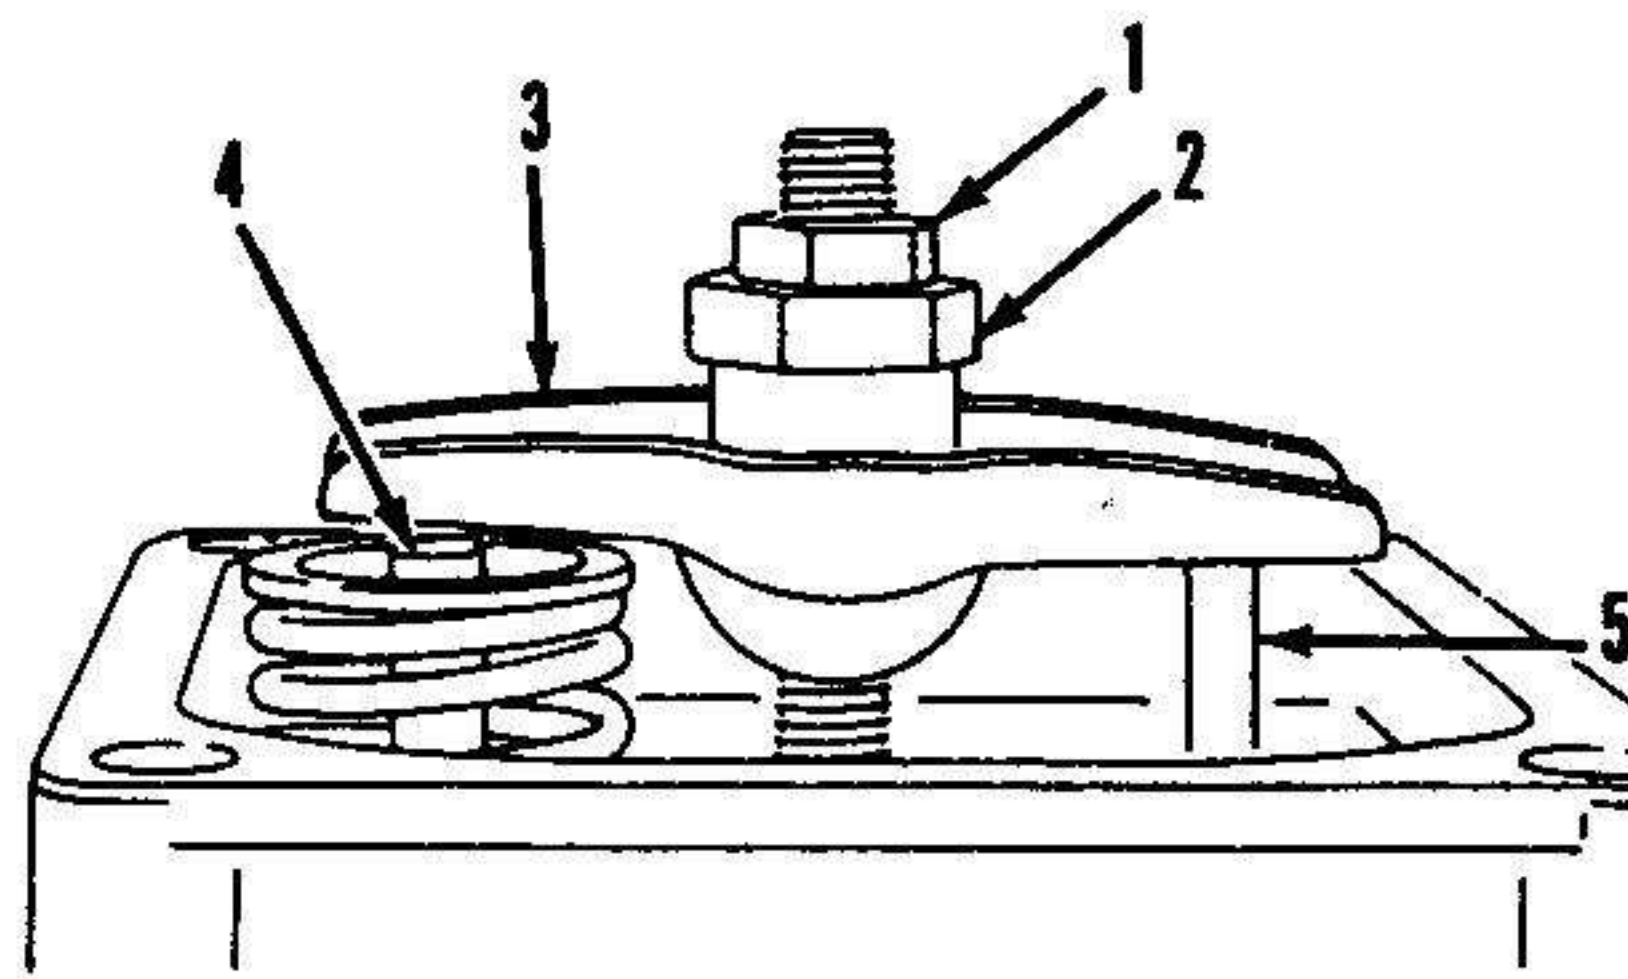

Fig. TO53—View of rocker arm and related parts.
**VALVE ADJUSTMENT.** Specified clearance between rocker arm (3—Fig. TO53) and end of valve stem (4) is 0.025-0.13 mm (0.001-0.005 in.) for both valves. To adjust valve clearance, remove rocker arm cover. Rotate crankshaft so piston is at top dead center (TDC) on compression stroke. Insert a suitable thickness feeler gauge between rocker arm and end of valve stem. Loosen rocker arm jam nut (1) and turn adjusting nut (2) to obtain desired clearance (a slight drag should be felt when withdrawing the feeler gauge). Tighten jam nut and recheck clearance. Install rocker arm cover. Note that cutaway portion of cover mounting flange must be adjacent to spark plug.